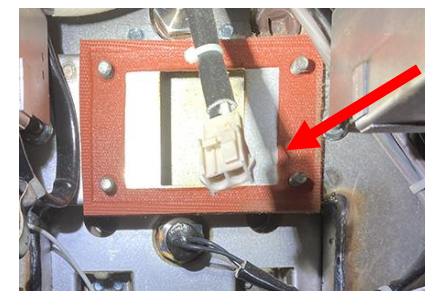

Figure 82
81. Ensure all wiring is out of the way of the blower mount and install the blower gasket (see Figure 82).